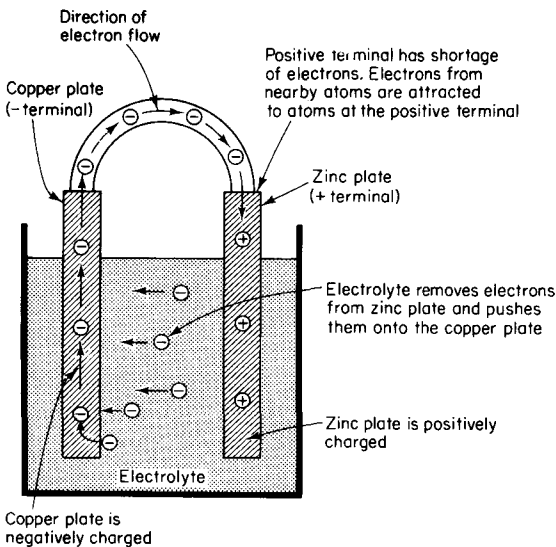

Fig. 2.74 How chemical action causes a flow of electricity
**How chemical action produces a flow of electricity.** The primary cell is used to produce electricity. This consists of two plates, one copper and the other zinc immersed in acid such as dilute sulphuric (Fig. 2.74). The liquid in which the plates are immersed is called an electrolyte.